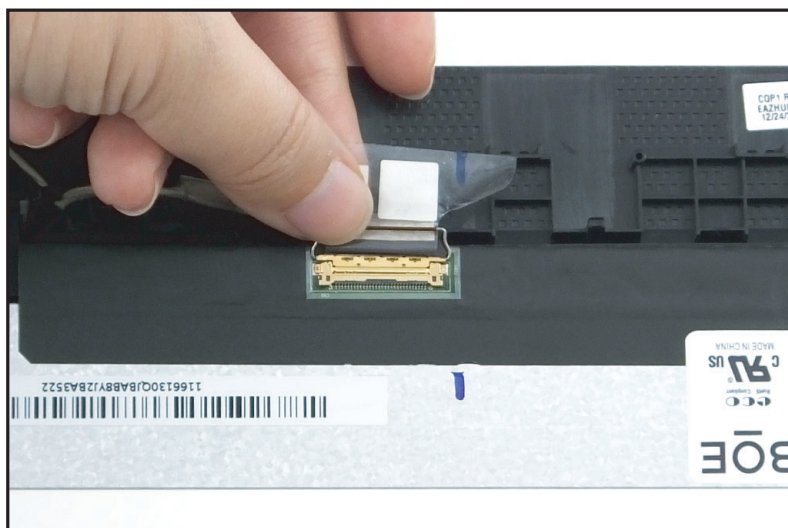

Figure 1-39. LCD Panel Removal
6. Disconnect the eDP cable from the panel connector (Figure 1-39).